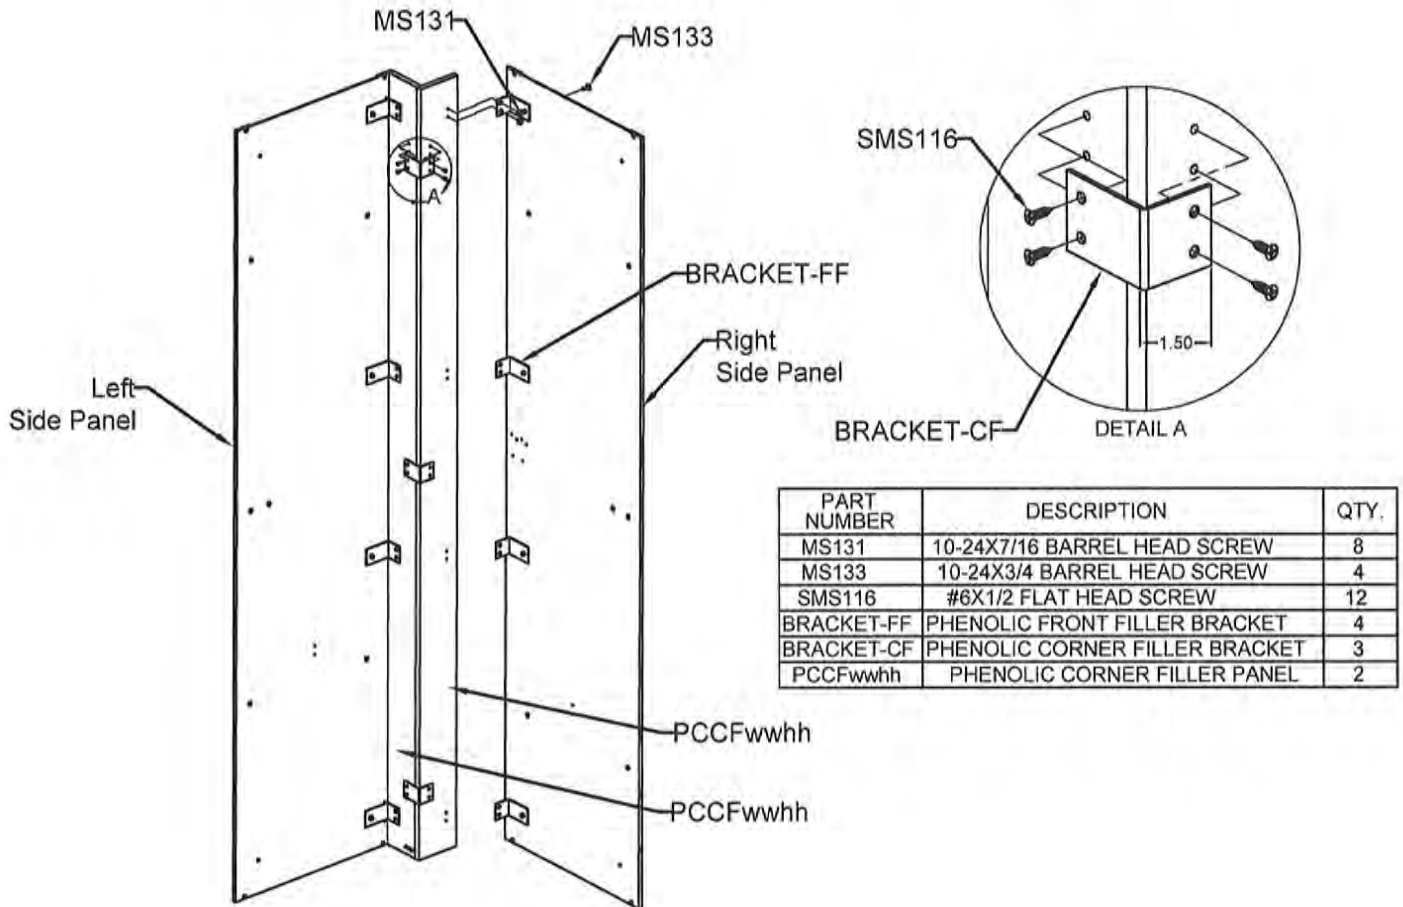

Figure 5.2 Corner Filler
- 5.3 Assemble the corner fillers using three corner filler brackets. Install four front filler panel brackets to each corner filler panel as shown using the filler panel screws provided, see Figure 5.2.